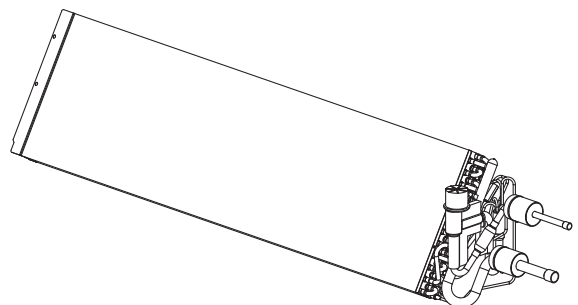

Fig.25
*Removed heat exchanger is as shown Fig.25